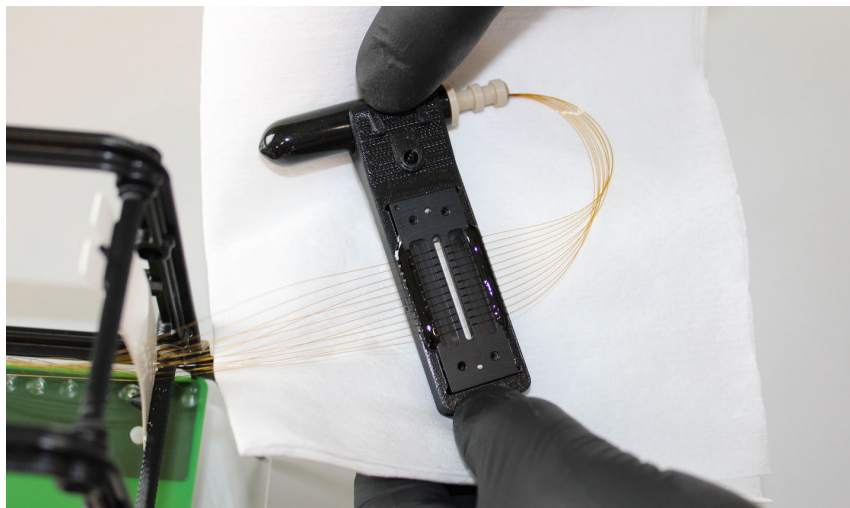

Figure 106 Capillary array window with paper towel behind
- 6 Place a paper towel behind the capillary array window as shown in **Figure 106**.